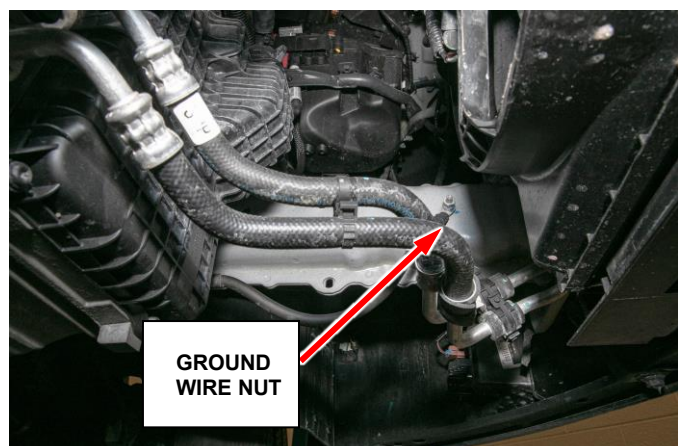

Figure 2 – Ground Wire Nut
4. Remove the cooling fan ground wire nut from the left frame rail (Figure 2).